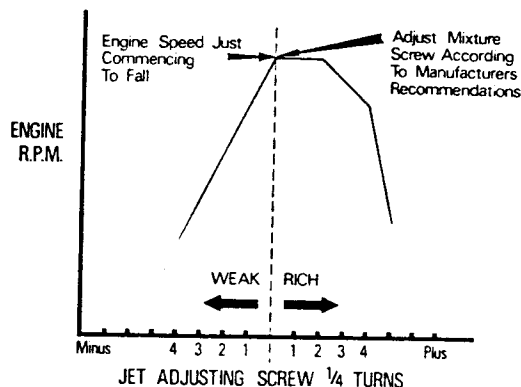

Fig C3.4
(3) Refer to Fig C3.4. Use a listening tube to compare the intensity of the intake hiss on all carburetters and turn the throttle adjusting screws (1) until the hiss is the same.
(4) Turn the jet adjusting screw (3) on each carburettor clockwise to enrich or anti-clockwise to weaken, by the same amount until the fastest speed is indicated. Turn each screw counterclockwise until the engine speed just starts to fall.
(5) Turn each screw very slowly clockwise by the minimum amount until the maximum speed is regained. From this setting adjust the mixture screws according to the graph.
(6) Check the idle speed and re-adjust it as necessary with the throttle adjusting screws (1) turning each by the same amount.
(7) Set the throttle interconnection clamping levers so that a clearance exists between the link pin and the lower edge of the fork. Tighten the clamp bolts, ensuring that there is approximately 0.8 mm end-float on the interconnection rod.
(8) Run the engine at 1500 r/min and check the throttle linkage for correct connection by re-checking the carburettor balance.